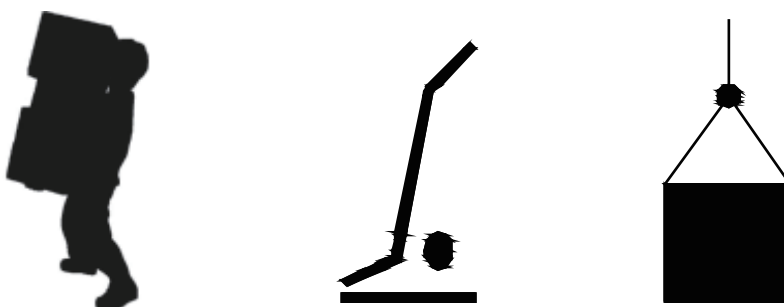

FIG 9-2
- 3、 Product handling, generally using portable, car handling and lifting and moving, as shown in the figure 9-2.